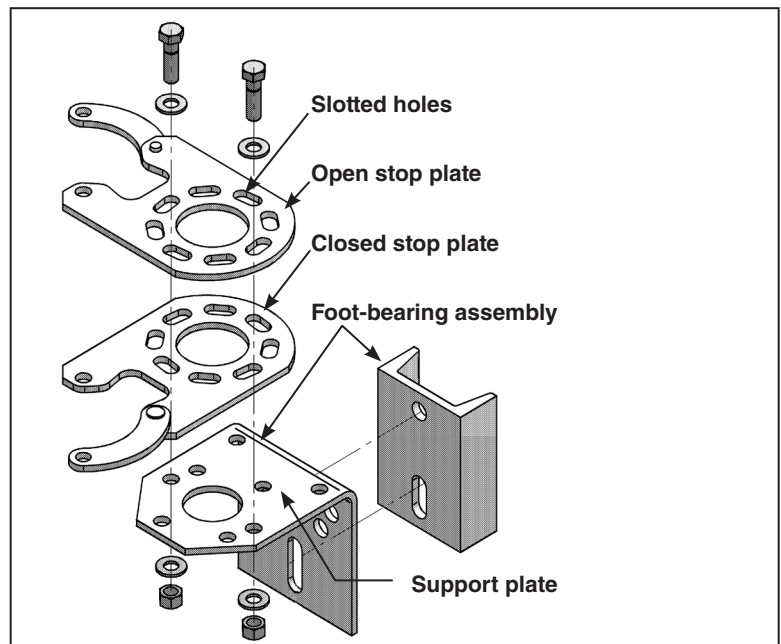

Figure 27. Exploded view of the stop plates and foot-bearing assembly.
The stop plate holes are slotted to allow room for adjustment. Loosen the bolts that secure the adjustable stop plates to the foot-bearing support plate. See Figure 27. Place the switch in the fully **Open** position and adjust the open-position stop plate so the handle, when lowered, fits into the open position slot. Mark on the support plate the location of the open-position stop plate.
- (a) Loosen the hardware securing the closed stop plate. See Figure 27 on page 19.